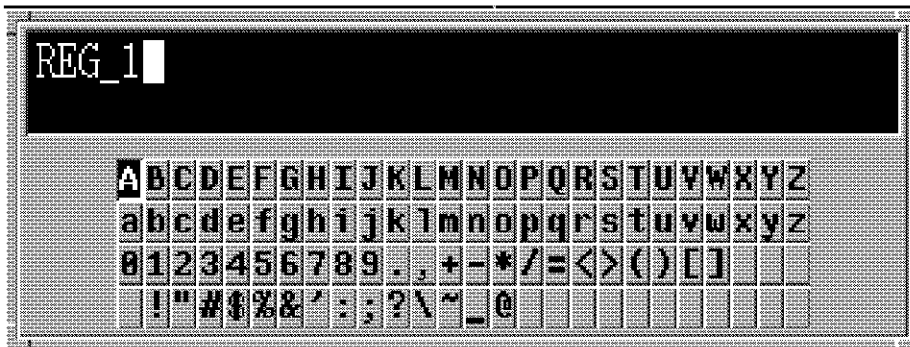

Figure 4-10 Label Window Display
- ① Press the [SAVE] to call the save menu.
- ② Press the {SAVE REGISTER} to call the save register menu.
- ③ Press the {RENAME REG} to display the label window and calls the name editing menu.
- ④ Name editing menu
- {EDIT NAME} : Displays the label window (Figure 4-10) and calls the character editing menu. (See step ⑤.)